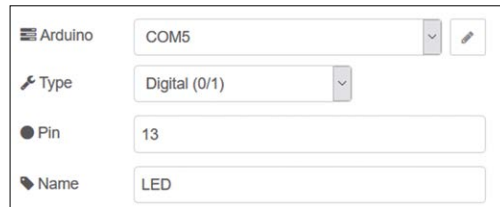

Figure 13.5 Configure node arduino out
- Create an **arduino out** node and configure it as shown in Figure 13.5. Notice that the serial port number found earlier (COM5) is used in this node.